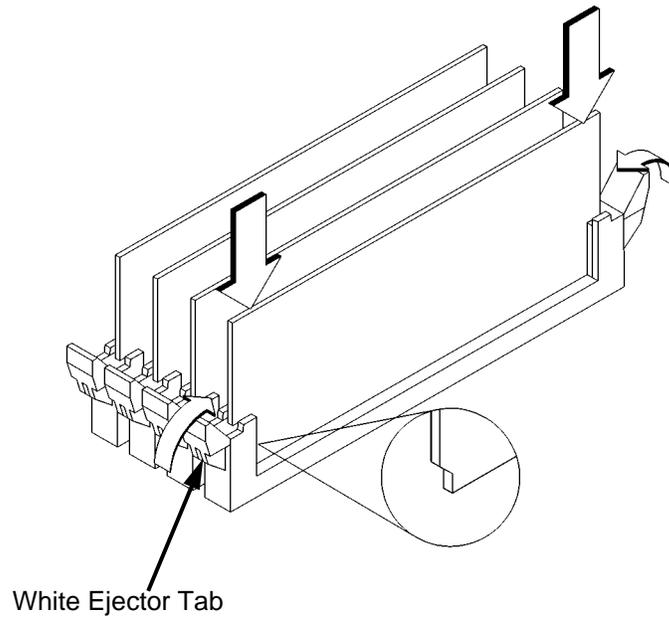

Figure 41
- 3 Close the ejector tabs on each side of the memory connector to lessen the force needed to seat the memory module. See Figure 41.
- 4 Place the memory module in the connector, lining it up with the guides. Make sure to put the notched end toward the white ejector tab (toward the rear of the main tray), as shown in Figure 41.